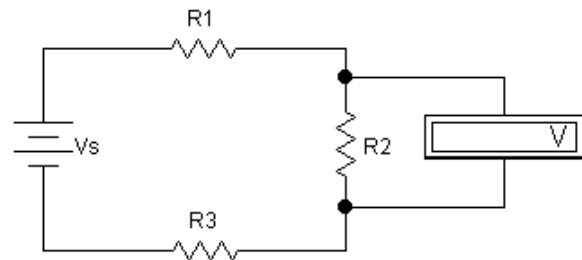

Fig. 1B
- 1A.** An energy meter has a meter registration constant of 100rev/kWh, if the meter is connected to a load drawing 20A at 230V and 0.8 power factor for 5 hours. Find the number of revolutions the meter should make for the above mentioned load. In practice, if it is found to make 1800 revolutions, find the percentage error and explain it from a consumer's point of view? (03)
- 1B.** Two different voltmeters are used to measure the voltage across R2 in the circuit in Fig. 1B. The meters are as follows: